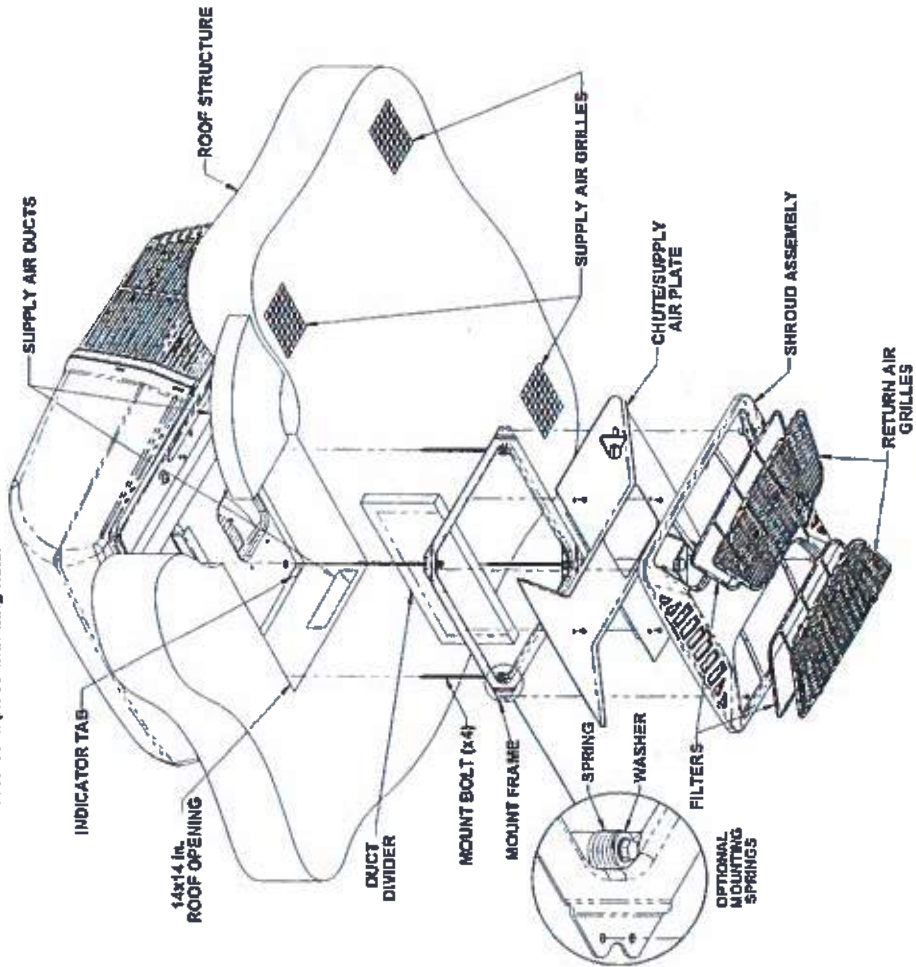

FIGURE 1
- Position the mount frame into the ceiling opening (See Figure 1).
- Using the four bolts provided, secure the mount frame to the roof top unit. The four mounting bolts are to be applied up through the bottom of the mount frame and into the bottom of the roof top unit (See Figure 1). Tighten each bolt until the indicators of the gasket are at roof level.
- Raise the chute/supply air plate to the mount frame and ensure the plenum duct divider is positioned between the two ribs. Install the chute/supply air plate to the mount frame with 4 screws provided in the parts package (See Figure 1).